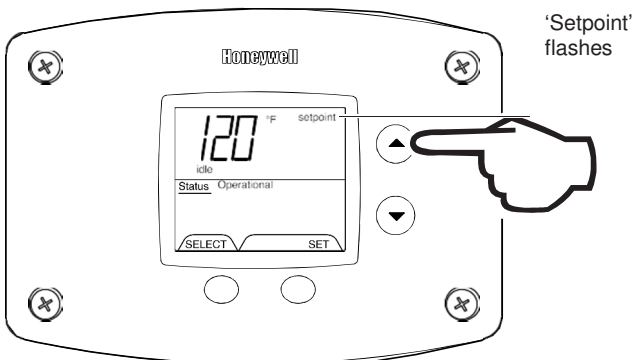

Figure 14
3. Press 'SET' button for new setting to take effect immediately. 'Setpoint' will stop flashing. If the "SET" button is not pressed, the new temperature setting will take effect in approximately 10 seconds (Fig. 14).